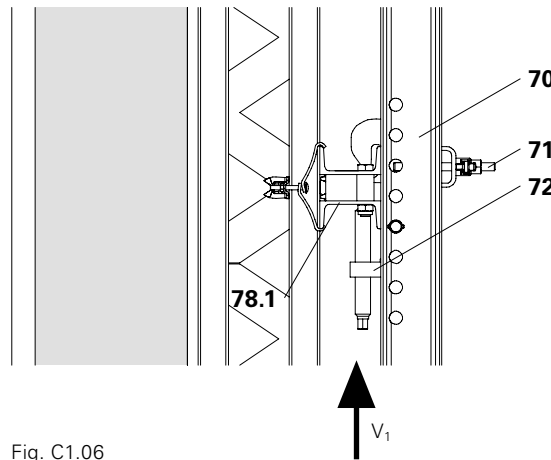

Fig. C1.06
Depending on the weight of the formwork, the number of Height Adjusting Units CB, SCS (72) is to be determined for each Strongback. (Fig. C1.06)